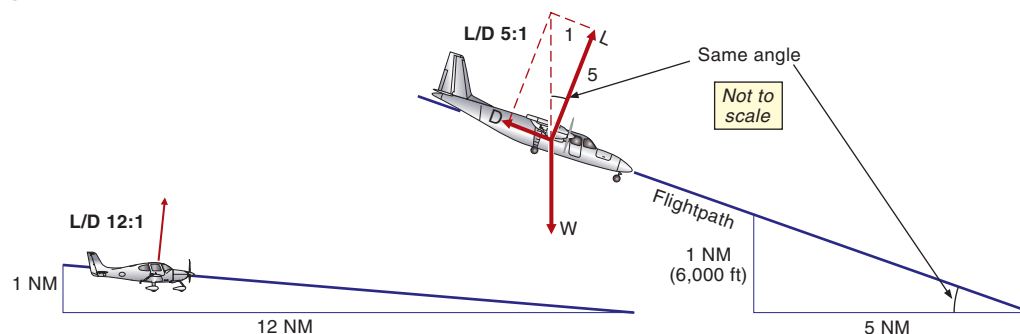

Figure 6-19 “Air distance/altitude” is the same ratio as “lift/drag.”
Figure 6-19 shows the forces acting in a glide. You will see that the glide distance is furthest when the L/D ratio is at its maximum value. If the L/D ratio is 5:1, the airplane will glide 5 times as far as it will descend. If you are 1 nautical mile (NM) high (about 6,000 feet), you will glide for about 5 NM. If you are at about 12,000 feet (2 NM), you will glide approximately 10 NM. An airplane with a L/D ratio of 12:1 will glide 12 times as far in still air as it will descend.